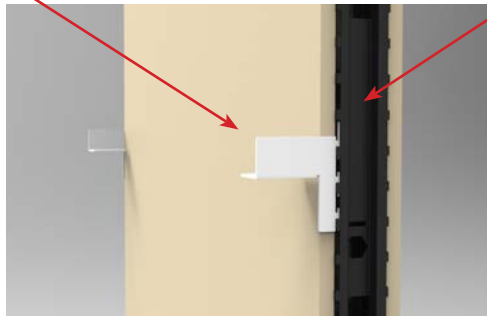

Fig. 1
1. Insert (2) panel brackets into the hanger slots of the frame. See figure 1.